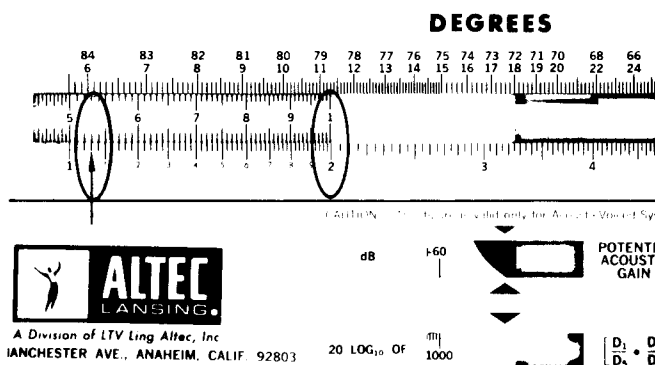

Figure 11
2. Now, place the 1 on the "C" scale over the 2 on the "D" scale. Find the D_2 distance on the "C" scale and read directly below it the number on the "D" scale. For example, $2 \times 53 = 106$ (see Figure 11).